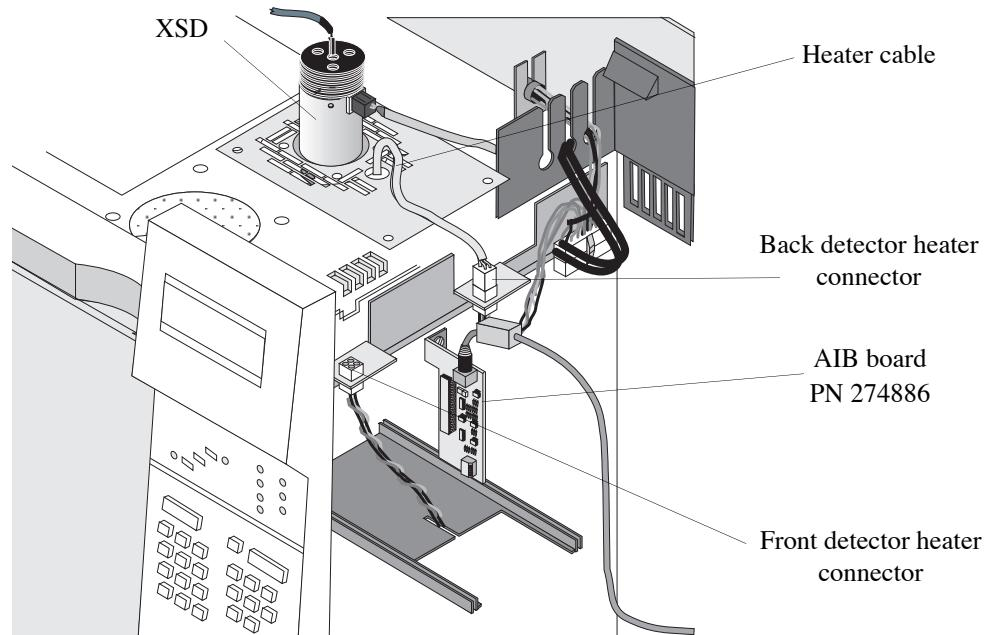
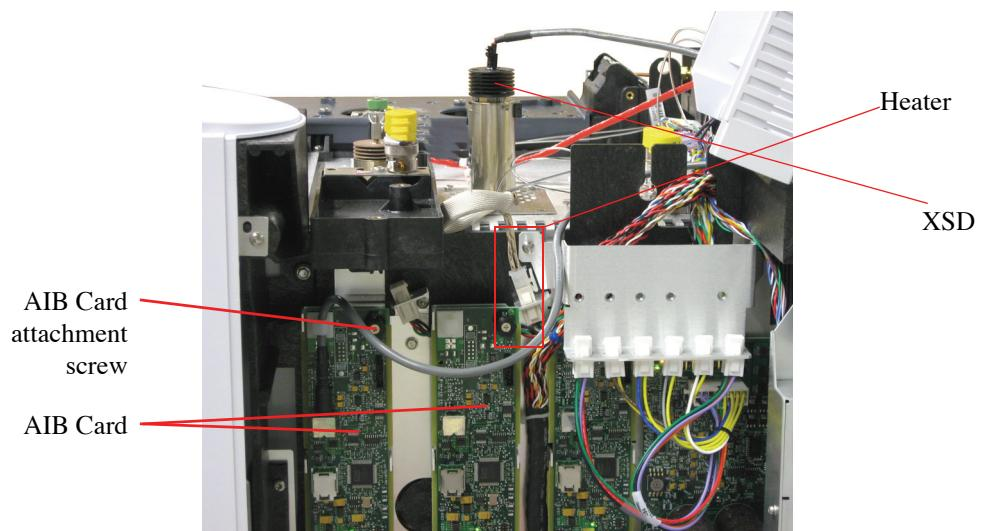

Figure 3.19. Placing the Model 5360A XSD on the Agilent 6890
Figure 3.20. Placing XSD on 7890
6. Connect the heater cable connector to the corresponding four-pin nylon connector located to the right of the detector port above the motherboard in the Agilent 6890 (Figure 3.19) or 7890 GC (Figure 3.20). The front detector port corresponds to the front connector and the back detector port corresponds to the back connector.